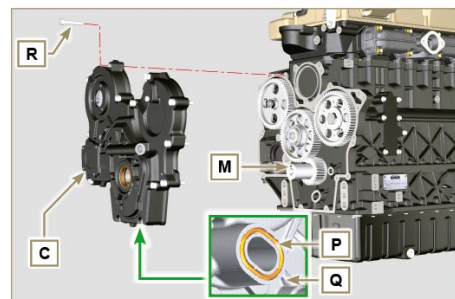

Fig 9.76
2. Make sure that the key **M** (Fig. 9.76) is inserted properly on the crankshaft and that it is facing upwards.